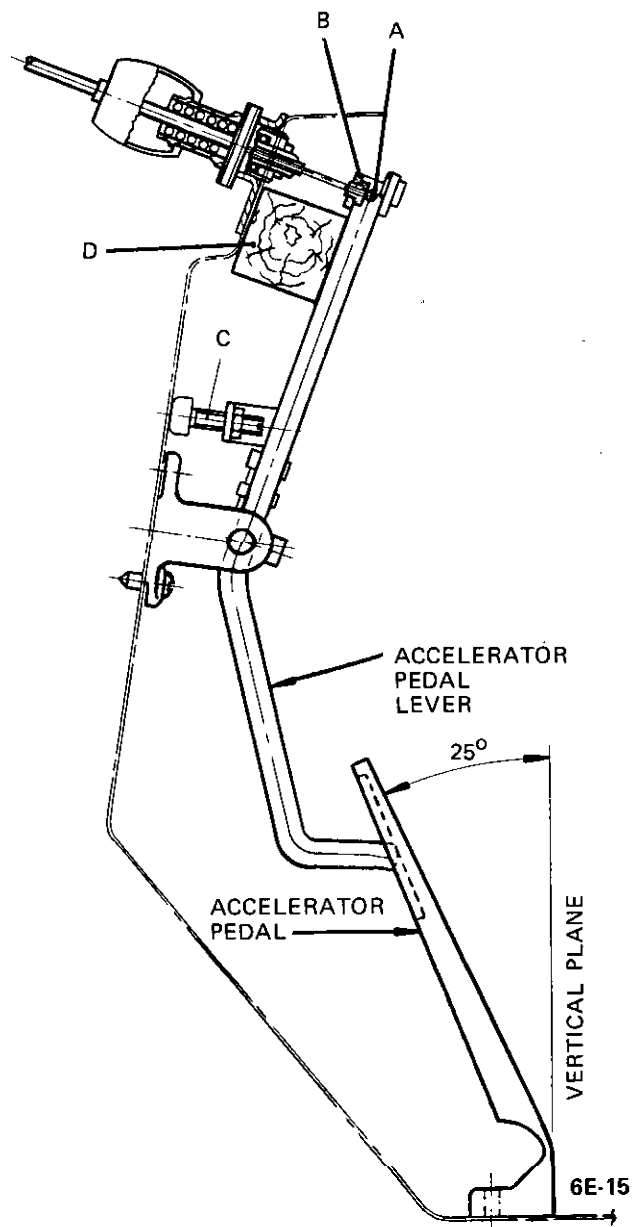

Figure 6E-15 Adjusting Accelerator Cable
2. Adjust **bowden** control wire at adjuster. See Figure 6E-16. Prior to doing this, adjust engine idle speed with engine at operating temperature.